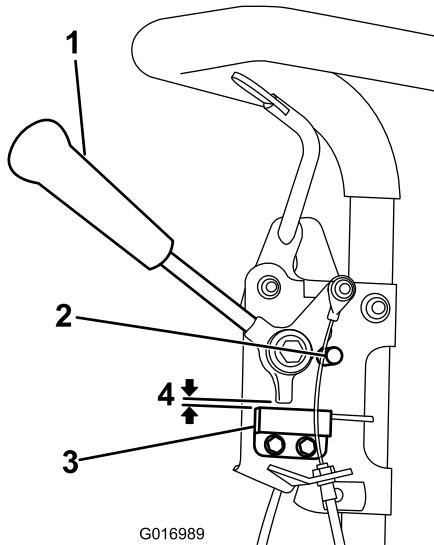

Figure 33
1. Make sure the engine is off and the traction lever is disengaged and resting against the neutral stop (Figure 33).
2. Loosen the interlock switch mounting fasteners (Figure 33).
3. Place a 0.812 mm (0.032 inch) thick shim between the traction lever and the interlock switch (Figure 33).